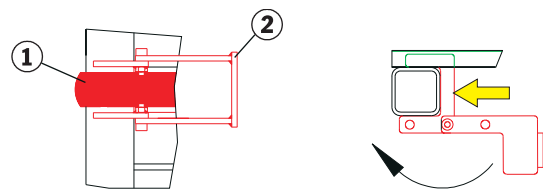

Fig. 15: Attaching the cable securing device
- 2 Attaching the cable securing device (2): slide the U-profiles on the backward-facing part of the side panel into the steps above and below the cable (1) and onto the vertical rectangular tube (see Figs. 15 and 16).